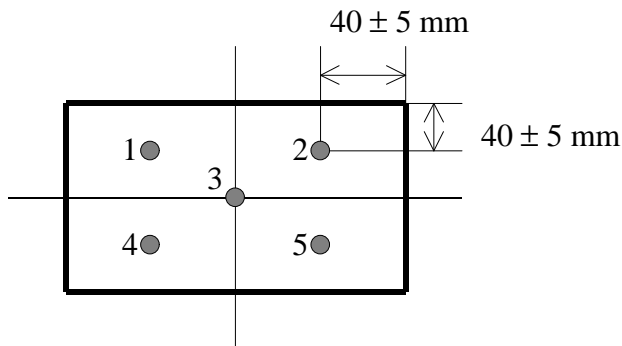

Figure 4
- 2) Brightness and Brightness Uniformity are measured at 5 points as described in Fig. 4
Brightness : Average value of 5 points shown in Figure 4